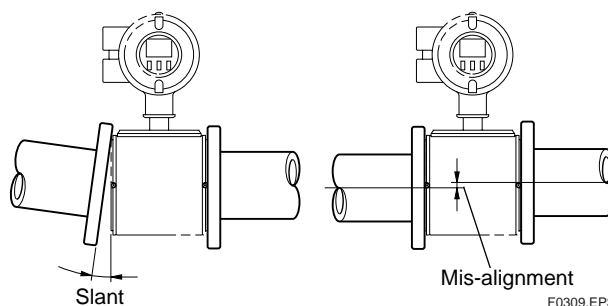

Figure 3.2.2 Slant and Mis-alignment of Flowmeter Piping
- Please correct mis-alignment or slanted piping and improper distance between mounting flanges before install the flowmeter. (Please refer to Figure 3.2.2)